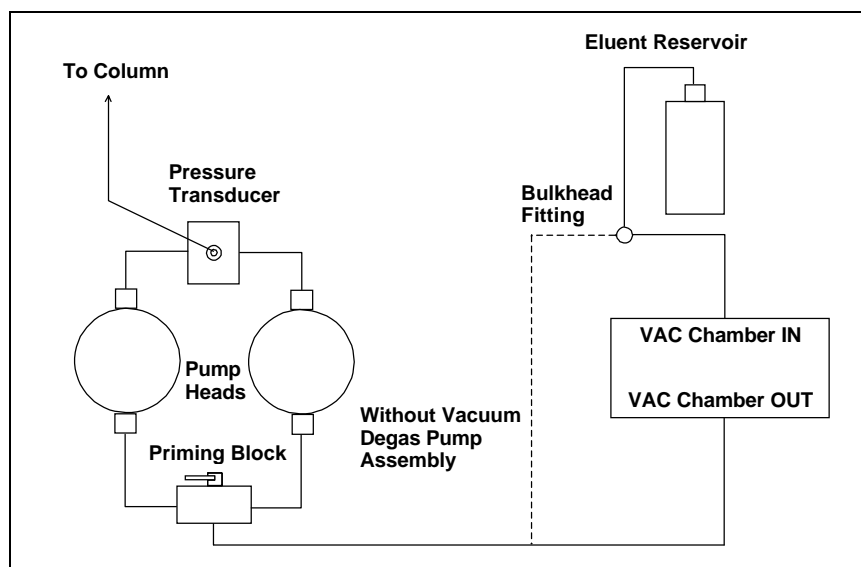

Figure 3-7. Eluent Flow Schematic
- Check the entire mechanical chassis for leaks from the rinse ports, the vacuum degas chamber, the bulkhead fitting, and the eluent reservoir (see Figure 3-7). Tighten or replace any leaking fittings. Wipe up liquid spills and rinse dried reagents off the pump components with deionized water.